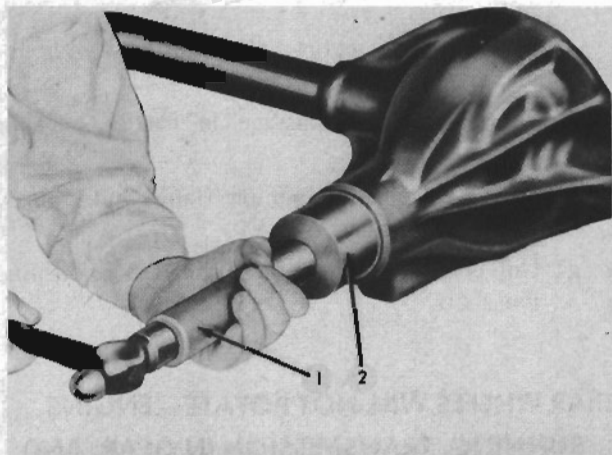

FIG. 19
After removing the companion flange, install the oil slinger, and with Bearing Oil Seal Driver J-2037 (2, Fig. 19) and Handle J-872-5 (1), install a new